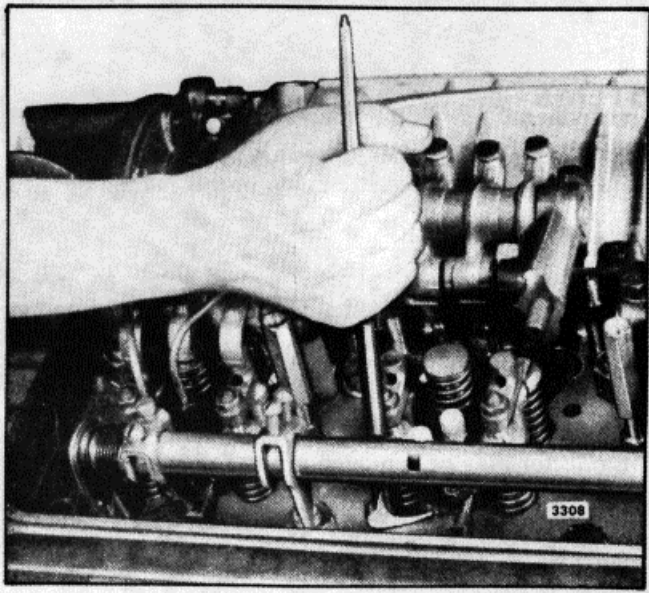

Fig. 2. - Removing Injector from Cylinder Head
8. Free the injector from its seat as shown in Fig. 2 and lift it from the cylinder head.